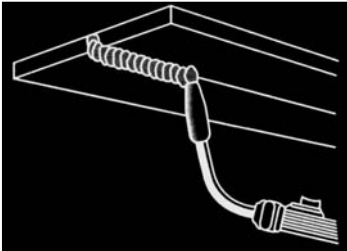

Figure 18. Overhead Position
4. The **OVERHEAD POSITION** (Figure 18) is the most difficult welding position because gravity is pulling at the weld puddle trying to make it drip off the work piece. Angle A (see **HOLDING THE TORCH** - p.18) should be maintained at 60 degrees, the same as in the flat position. Maintaining this angle will reduce the chances of molten metal falling into the nozzle should it drip from the weld puddle. Angle B should be held at zero degrees so that the wire is aiming directly into the weld joint. If you experience excessive dripping of the weld puddle, select a lower heat setting. Also, the weave bead tends to work better than the stringer bead when welding overhead.